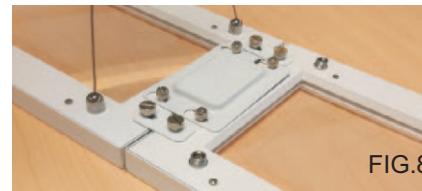

FIG.8
4. Put the wires into luminaires and lock them by the connect plate (FIG.8).